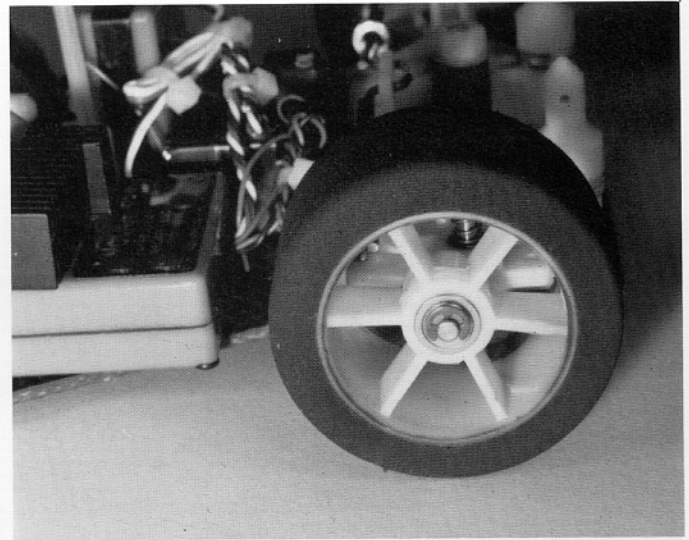

**Fig. 57**
□ **Fig. 57**—Take the front wheels and push a #3655 ball bearing into the inside and outside bearing pockets in each wheel.